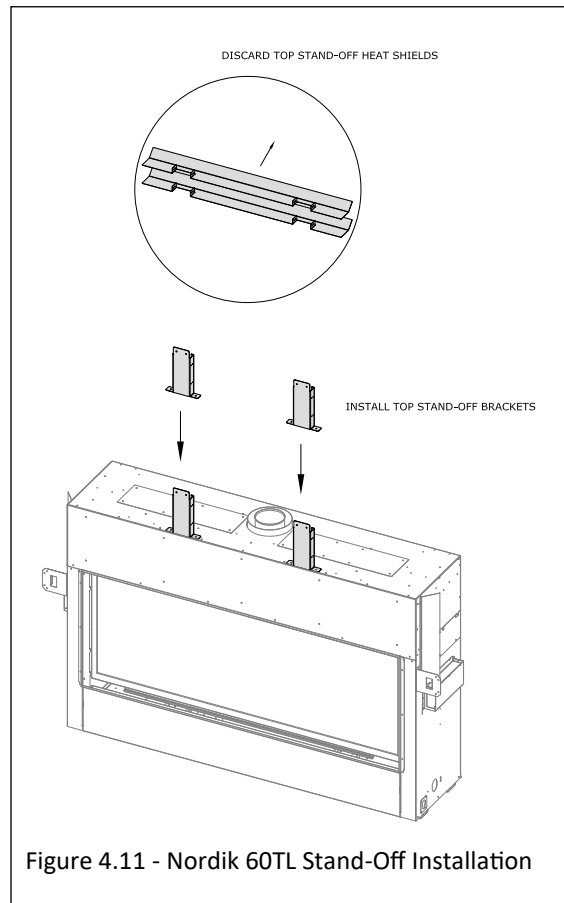

Figure 4.11 - Nordik 60TL Stand-Off Installation
7. Install top stand-off brackets. See Figure 4.11.
8. Discard the (2) top stand-off heat shields.